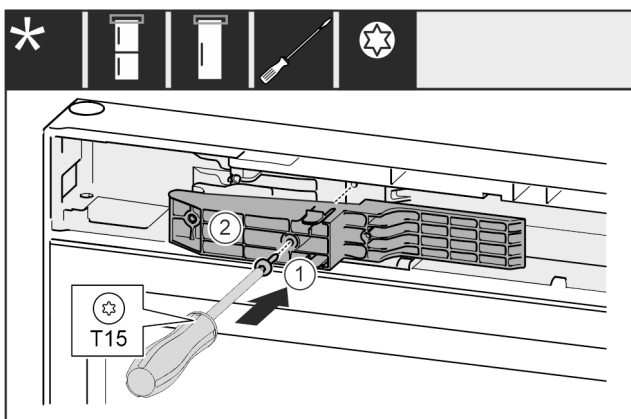

Fig. 54 *
- ▶ Insert adapter *Fig. 54 (1)* in the recess on the handle side.*
- ▶ Tighten screw *Fig. 54 (2)* with screwdriver.*